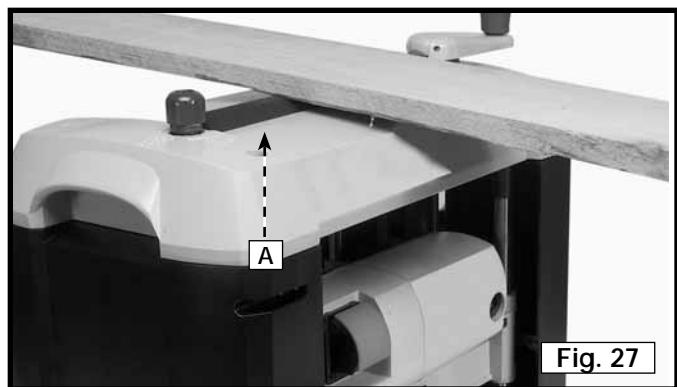

Fig. 27
You can use the stock transfer bar (A) Fig. 27 for transferring stock (especially long workpieces) from the outfeed end to the infeed end of the machine for additional cuts.